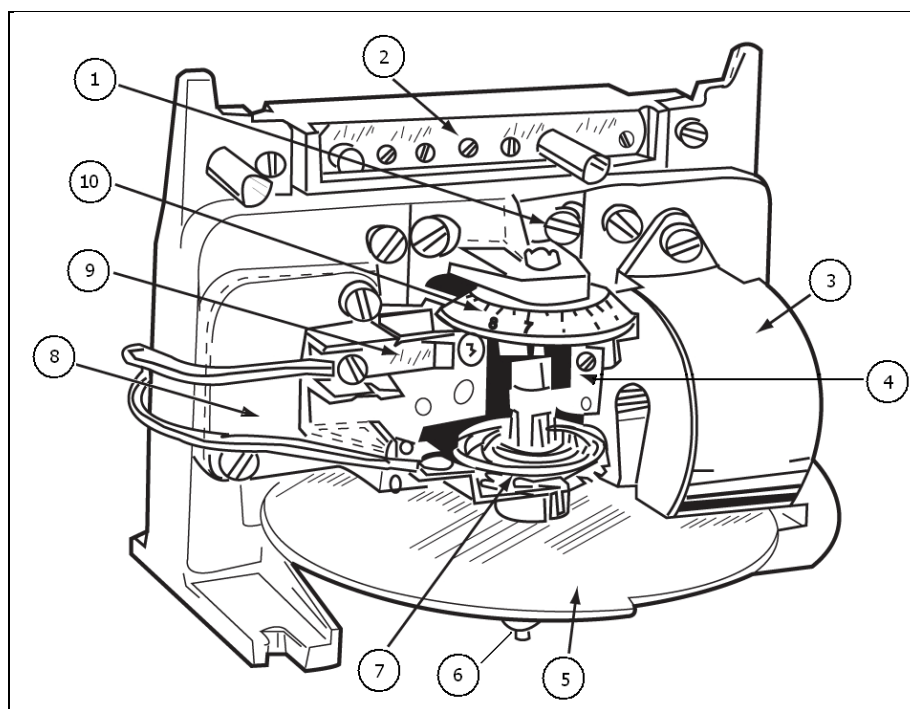

Fig. 1.2-19
13. Match the components listed below with the numbers on the induction disc O/C relay of Fig. 1.2-19.